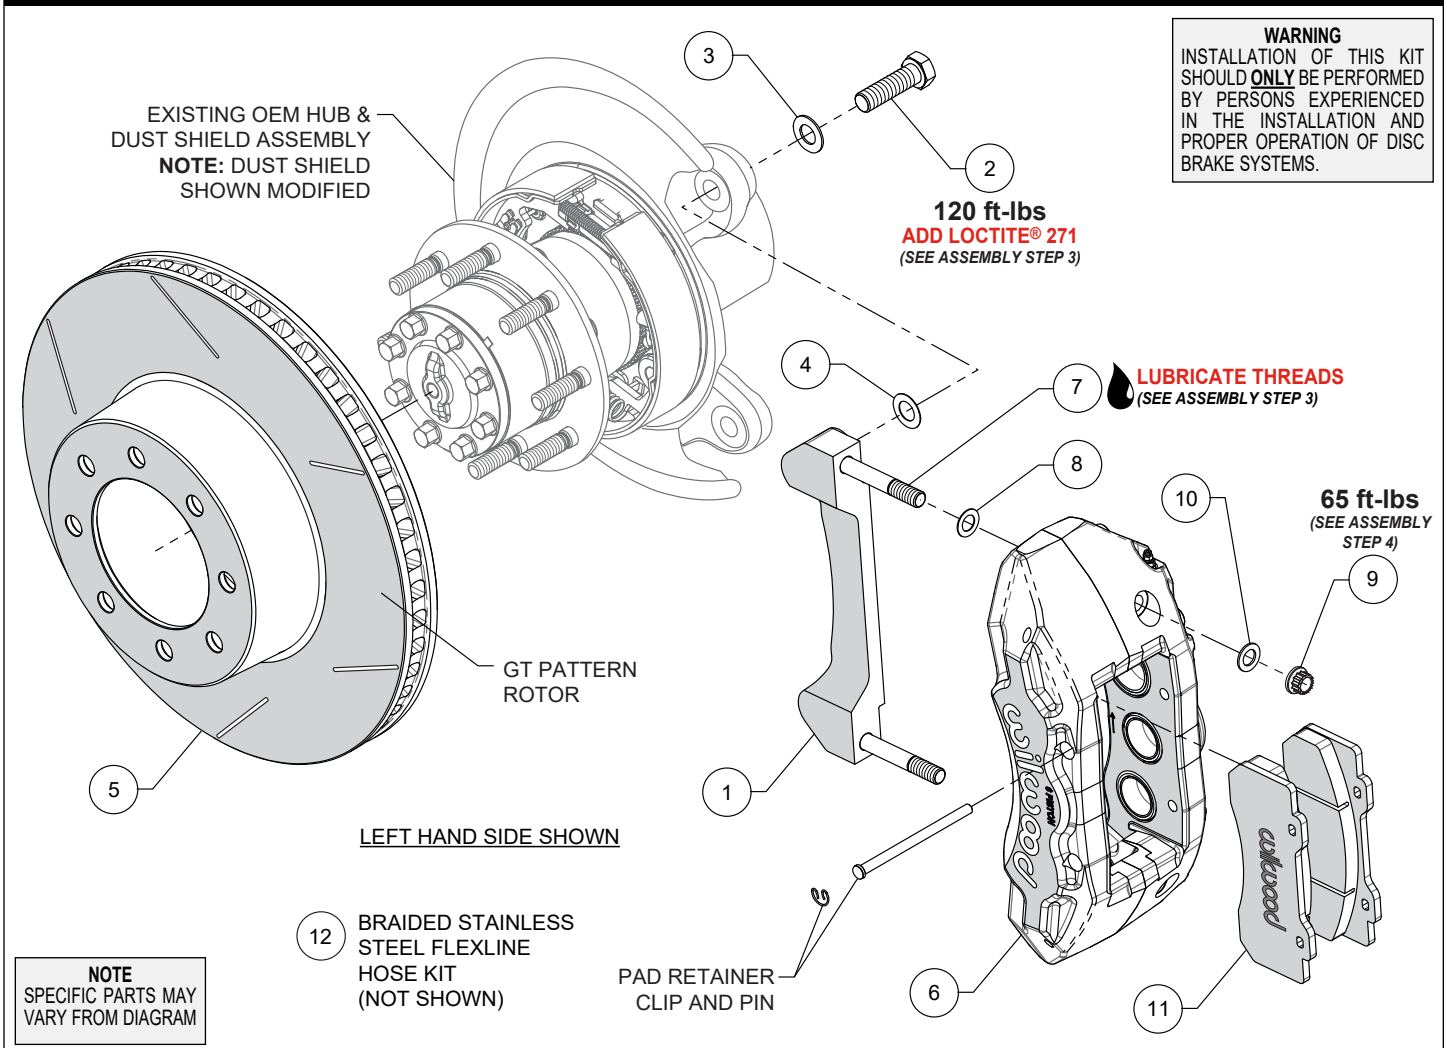

Figure 1. Typical Installation Configuration
Numbers in parenthesis refer to the parts list and Figure 1 on the preceding pages.
STEP 1 The caliper mount bracket (1) should initially be installed with clean, dry threads on the mounting bolts. Orient the bracket as shown in Figure 1 and Photo 1, and install using bolts (2) and washers (3). Initially place one .024" thick shim (4) on each bolt between the bracket and upright as shown in Figure 1. Temporarily tighten the mounting bolts. **NOTE:** The bracket must fit squarely against the mount bosses on the upright. Inspect for interference from casting irregularities, machining ridges, burrs, etc. Later, after the caliper alignment has been checked, the mount bolts will be secured using red Loctite® 271.
STEP 2 Slide the rotor (5) onto the axle hub. **NOTE:** The rotor must fit flush against the hub flange or excessive rotor run out may result. Install three lug nuts to keep the rotor in place while continuing with the installation, Figure 1 and Photo 2.
STEP 3 Lubricate the caliper mounting studs (7) with lightweight oil. Initially place one .032" thick shim (8) on each stud between the caliper and the bracket, as shown in Figure 1 and Photo 3. Mount the caliper (6) onto the bracket (1) using lock nuts (9) and washers (10), Figure 1. Temporarily tighten the lock nuts. The rotor should be centered in the caliper, Photo 4. If not, adjust by adding or
subtracting shims (4) between the bracket and the upright. Always use the same amount of shims on each of the two mounting bolts. Once the caliper alignment is correct, remove the bracket mounting bolts (2) one at a time, apply red *Loctite*® 271 to the threads, and torque to value shown in Figure 1.
STEP 4 Remove the two pad retaining pins from the caliper by carefully popping out the pin retaining clips and sliding out the pins. Insert the brake pads (11) into the caliper, with the friction material facing the rotor, as shown in Photo 5 and secure the brake pads in place with the pad retaining pins and clips. Check that the top of the brake pad is flush with the outside diameter of the rotor, Photo 6. If not, adjust by adding or subtracting shims (8) between the caliper and the bracket. After the caliper pad height is set, torque the caliper lock nuts (9) to value shown in Figure 1.
STEP 6 Attach supplied brake flexline to caliper. **NOTE:** OEM rubber brake hoses generally cannot be adapted to Wilwood calipers. Install and route Wilwood's stainless steel braided flexline hose kit (12), p/n 220-15676, included with this kit. The caliper inlet fitting is a 1/8-27 NPT. Use the included steel adapter fitting at the caliper (use PTFE tape on the pipe threads of adapter fitting for proper sealing to caliper) and note final orientation of fitting as shown in Photo 8. Replace OEM brake line chassis bracket with Wilwood brake line chassis bracket. Reuse existing OEM bracket bolt to secure new bracket to original location, see Photo 7. Mount the Wilwood brake line chassis adapter fitting into new chassis bracket using the supplied retainer clip and attach the OEM hard line to new chassis adapter fitting. Attach flexline to other end of chassis adapter fitting. Route flexline as shown in Photo 8 and attach to caliper inlet fitting. **Ensure hoses are routed to prevent contact with moving suspension, brake or wheel components.**